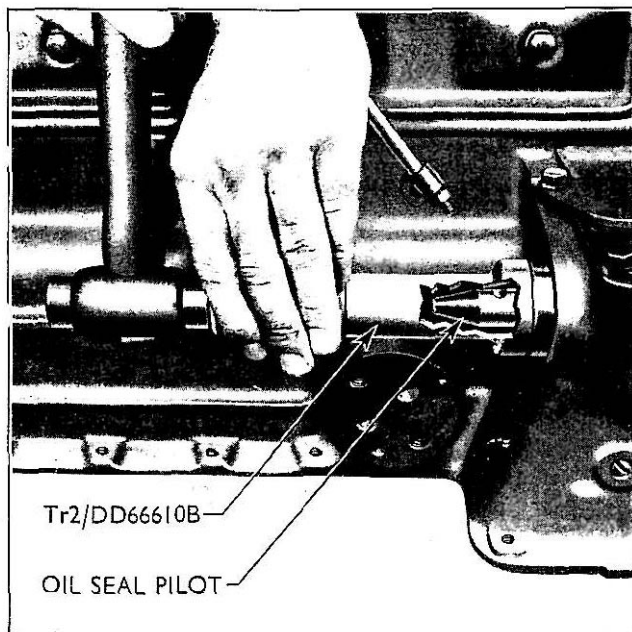

Fig. 37
- 6 Carefully fit the seal over the guide, on to the shaft (see Fig. 37), and gently drive it into place using the replacer (part of the above tool) and a suitable mallet.